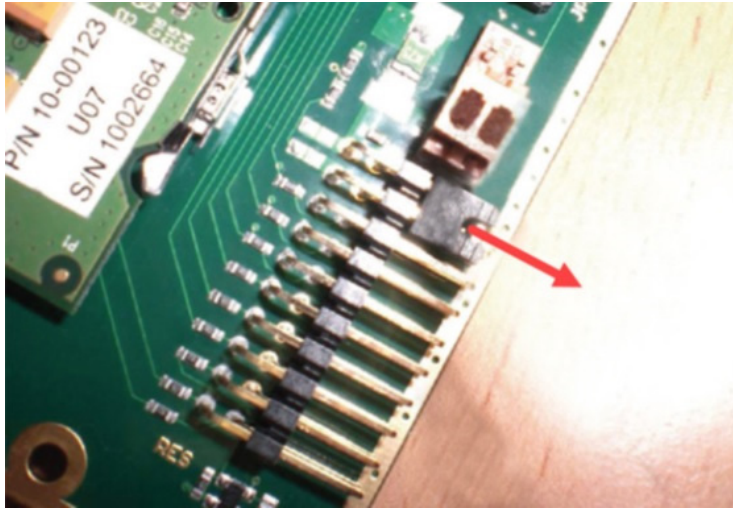

Figure 70. Removing Jumper from Between Pin 1 and Pin 3 on a USB 2.0 Only Option cad
1. Remove the jumper from between Pin 1 and Pin 3 on the backplane connector of the USB 2.0 Option Card. See Figure 70 above.